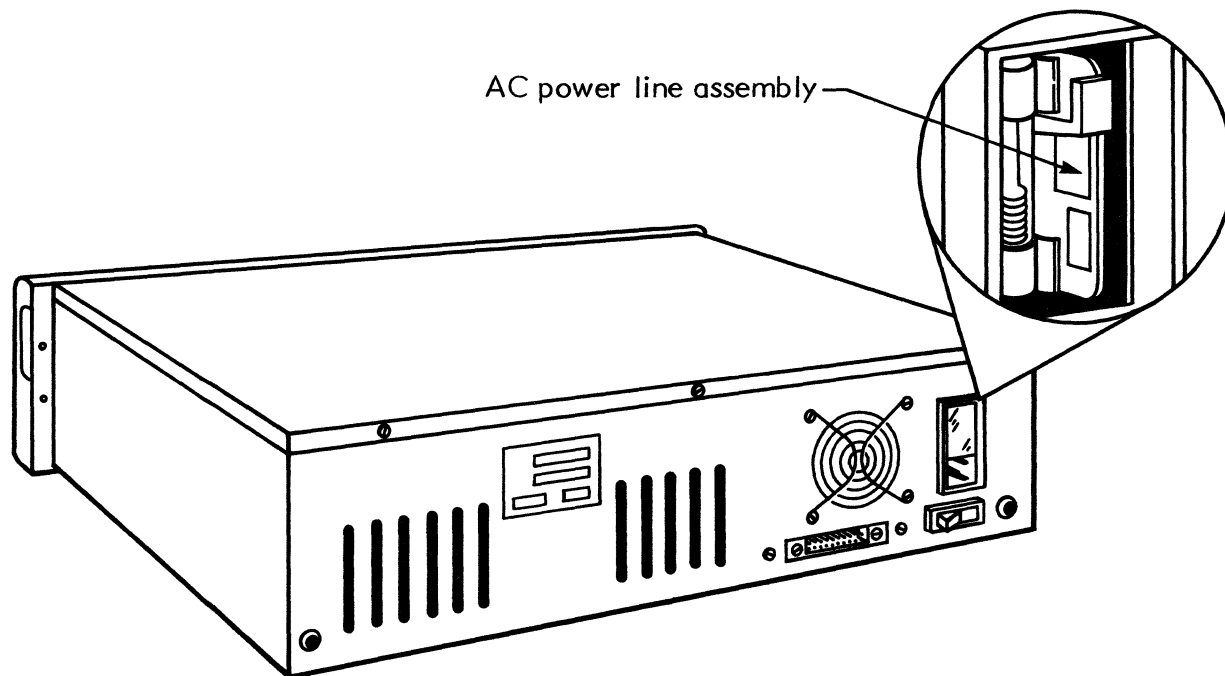

Figure 2-1. AC Power Connector Assembly
- 4) Remove PC board adjacent to fuse holder. (See Figure 2-1)